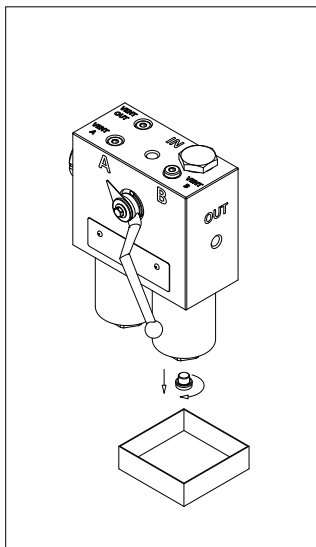

fig. 20
- (Fig. 20) Unscrew the drain plug after placing a vessel to collect the operating fluid